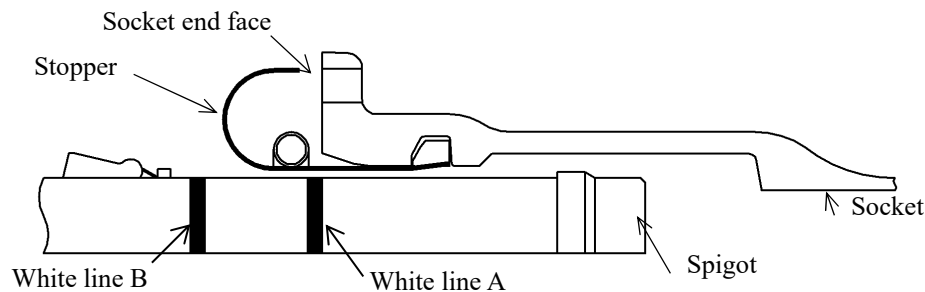

Figure 11 Spigot insertion
- (1) Lift the pipe with a crane. In this state, insert the spigot into the socket.
- (2) Slowly insert it so that the socket end face will be located within the width of the white line A of the two white lines indicated on the outside surface of the spigot (white line on the end face side of the spigot) (see Figure 11).
- (3) After the spigot has been inserted, pull out the stopper installed on the lock ring split portion. In this case, make sure that the lock ring holds the outer surface of the spigot. If the spigot comes in contact with the stopper during insertion of the spigot, the stopper may be removed. If the stopper has been removed, repeat the steps from 3. (2).